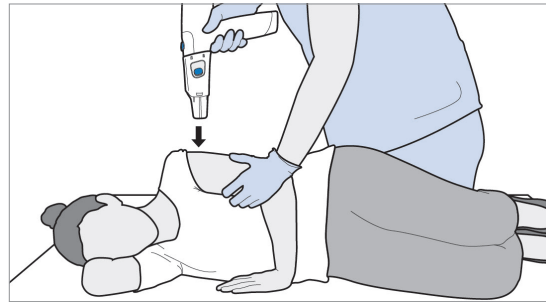

Figure 44 Deltoid shown. Patient shown in lateral position.
21. Firmly push the Array into the thickest part of the intended muscle (deltoid or anterolateral quadriceps) to insert the needles fully (see Figure 44).